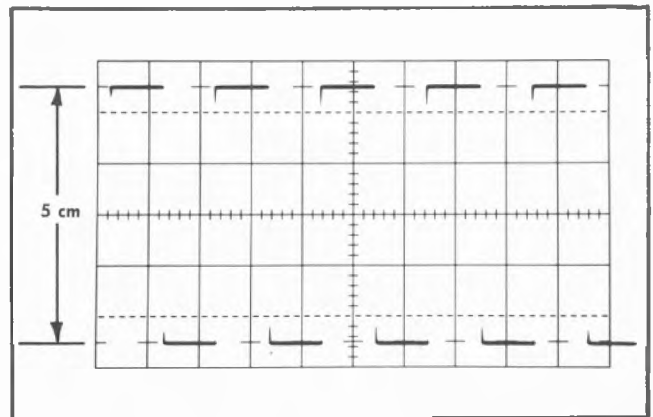
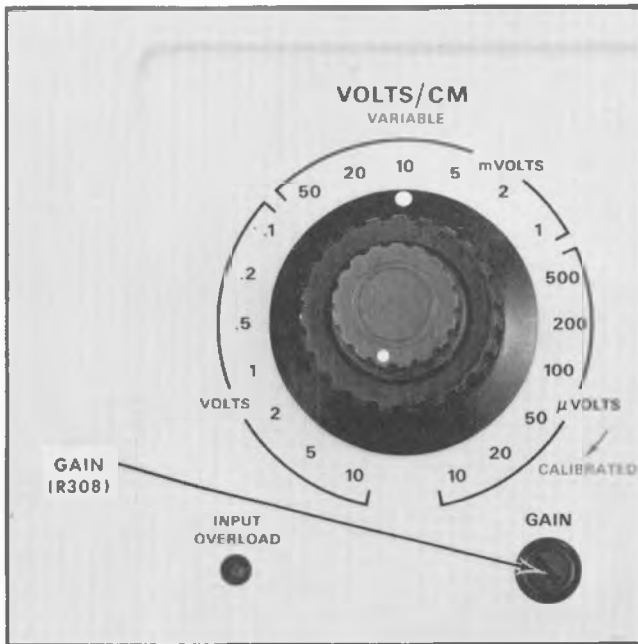

Fig. 6-9. Typical crt display showing correct gain adjustment. Vertical deflection factor: 10 mV/cm.
Fig. 6-10. Location of step 4 adjustment.
- d. Check the display for a vertical amplitude of exactly 5 cm (see Fig. 6-9). If it is not, adjust the GAIN control (R308), see Fig. 6-10) to obtain the proper amplitude display.